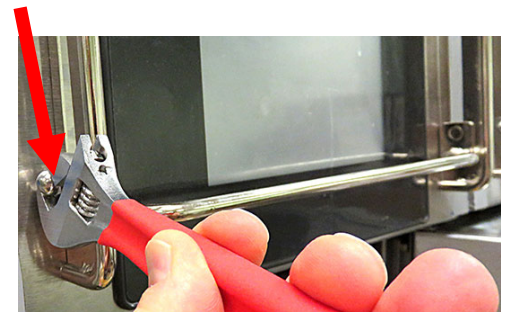

Figure 6
10. If a guard rail is installed, remove the acorn nuts, washer and plates on both ends of the guard from the **far-left controller** (see Figure 6).